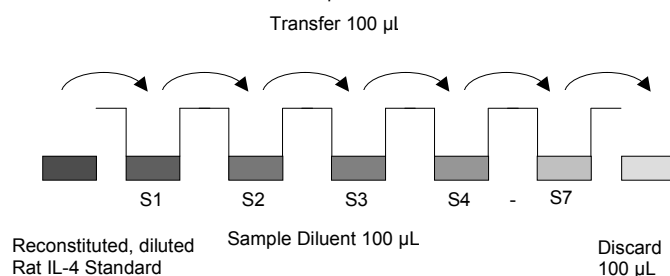

Fig. 1 Dilute standards - microwell plate
2. Add 100  $\mu\text{L}$  Sample Diluent in duplicate all standard wells. Pipette 100  $\mu\text{L}$  of diluted standard (see "Preparation of standard" on page 2), (concentration = 200 pg/mL) in duplicate into well A1 and A2. Mix the contents of wells A1 and A2 by repeated aspiration and ejection (concentration of standard 1, S1 = 100 pg/mL), and transfer 100  $\mu\text{L}$  to wells B1 and B2, respectively (see Figure 1). Take care not to scratch the surface of the microwells. Continue this procedure 5 times, creating two serially diluted columns of rat IL-4 standard dilutions ranging from 100.0 to 1.60 pg/mL. Discard 100  $\mu\text{L}$  from the last microwells (G1, G2). Final volume in all wells is 100  $\mu\text{L}$ .